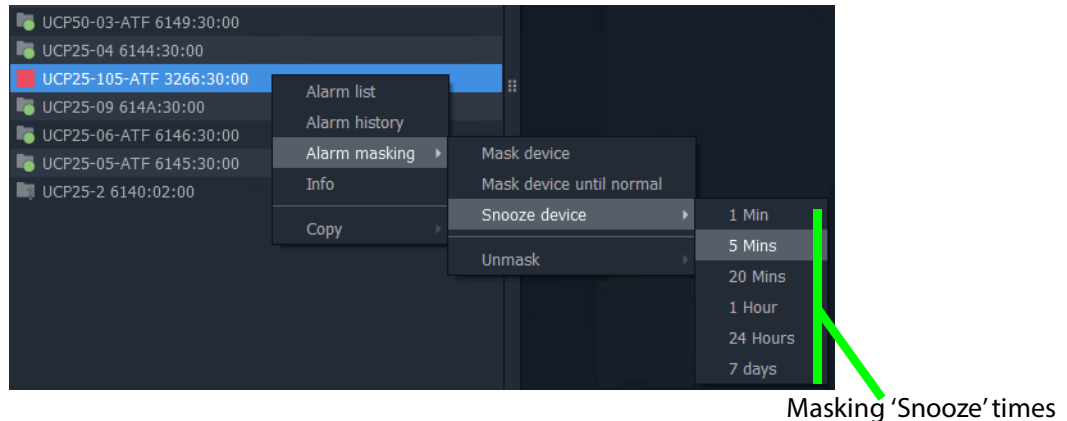

Fig. 3-19: Masking Snooze Times
- 1 Right-click on a device, select ‘Alarm Masking’. See Figure 3-19.